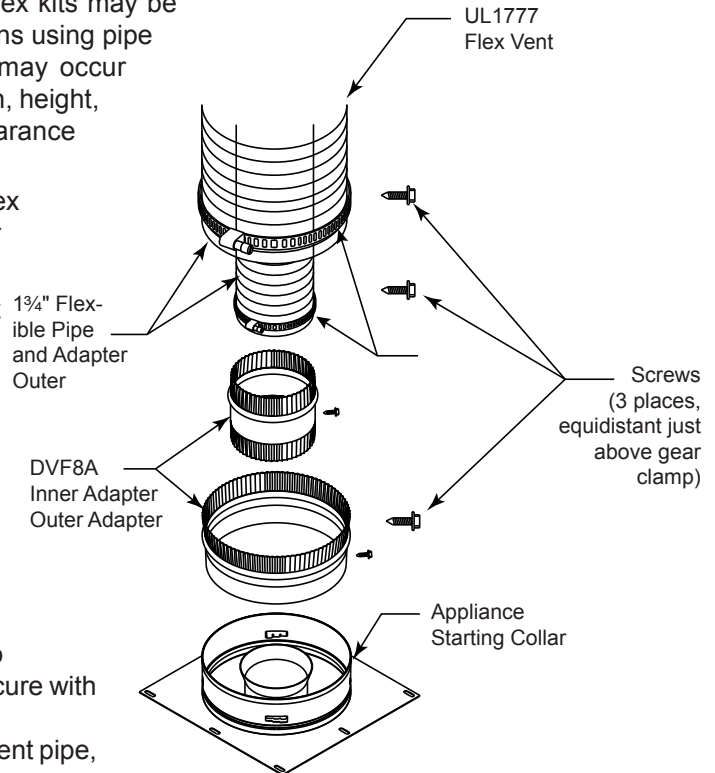

Figure 24 - Typical Appliance Connection
2. The flex adapter starter kit (DVF8A/8) is used to attach flex venting to the appliance starting collar. It includes 5" inner and 8" outer adapter rings. *Figure 24*
A. Installing the inner flex adapter and pipe. *Figure 24*
B. Installing the outer flex pipe. *Figure 24*